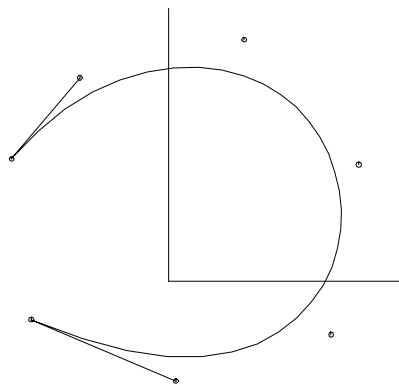

Fig. 1
- 7 Press <F4> to make another Line (Fig. 1). The ends of 'curve1' are tangent to 'line1' and 'line2'. This is one of the tangency principles of a B-spline Curve: it is tangent to the line between its end and next-to-end control points. This should match our distribution model TANGENT2.sldprt.